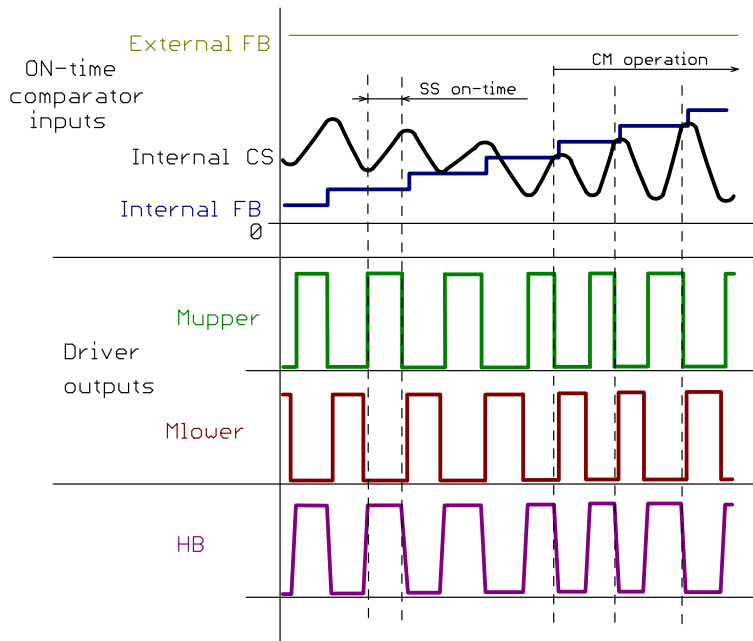

Figure 16. Soft Start Behavior
5. The **Soft-Start D/A converter** generates a soft-start voltage ramp for ON-time comparator input synchronously with Soft-Start counter incrementing. The internal FB signal for ON-time comparator input is artificially pulled-down and then ramped-up gradually when soft-start period is placed by the system – refer to Figure 16. The FB loop is supposed to take over at certain point when regulation loop is closed and output gets regulated so that soft-start has no other effect on the on-time modulation. The Soft-Start counter continues counting-up until it reaches its maximum value which corresponds to the IC maximum on-time value – i.e. the IC minimum operating frequency. The Soft-Start period is terminated (i.e. counter is loaded to its maximum) when the FB pin voltage drops below  $V_{FB\_SKIP\_IN}$  level. The D/A converter output evolve accordingly to the Soft-Start counter as it is loaded from its output data bus.